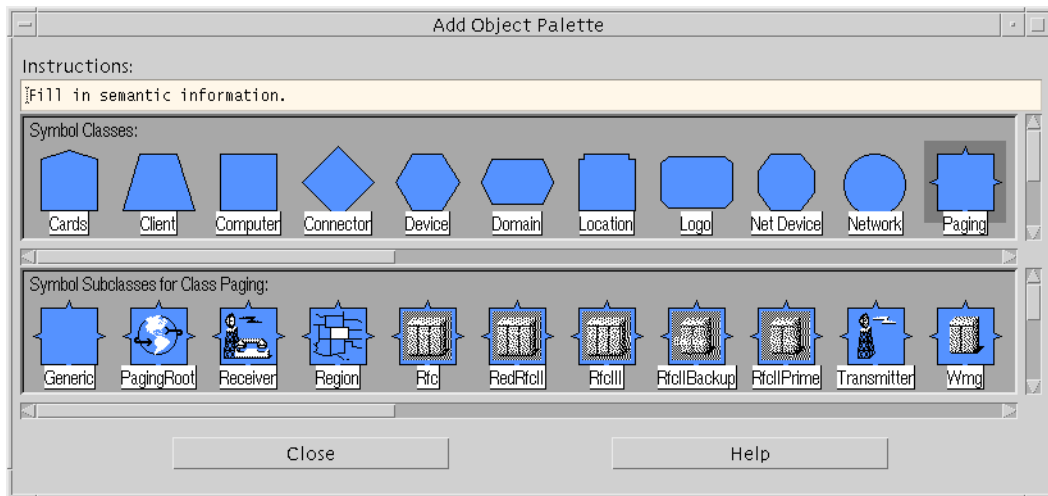

Figure 4-4: Add Object Palette
The Add Object Palette appropriate for the current hierarchy level opens (see Figure 4-4)
2. Select the region symbol from the Add Object Palette (see Figure 4-4) by highlighting the symbol.
2. From the Add Object Palette (see Figure 4-4), highlight the RFC symbol (Models 3100 and 3110).
2. From the Add Object Palette (see Figure 4-4), highlight the RF-C! III symbol.
- a. From the Add Object Palette (see Figure 4-4), highlight the RedRFCII symbol.
- b. From the Add Object Palette (see Figure 4-4), highlight the RFCIIPrime symbol.